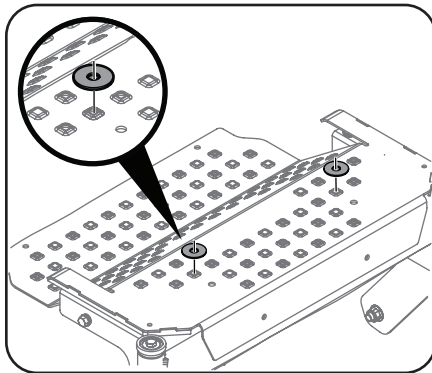

Figure 4-17
1. Place 2 washers (936-0208) from hardware pack 689-00569 over top of the mounting holes. See Figure 4-17.